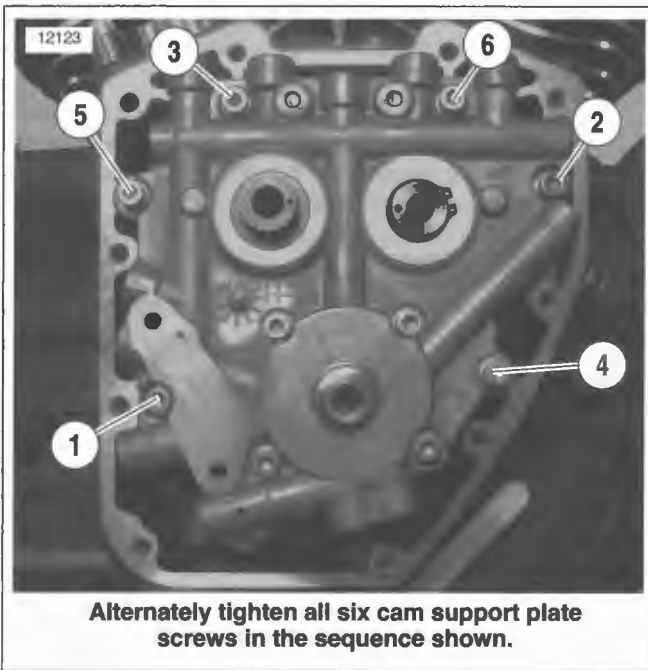

Figure 3-78. Cam Support Plate Torque Sequence
5. See Figure 3-78. Install cam support plate screws.